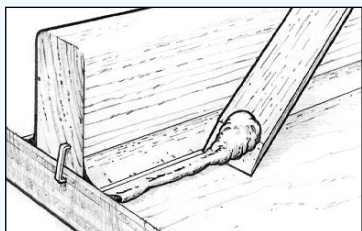

Figure 14 Clean up the excess epoxy outside the fillet margin.
3. Clean up the remaining excess material outside the margin by using a mixing stick or a putty knife (*Figure 14*). Glasscloth or tape may be applied over the fillet area before the fillet has cured (or after the fillet is cured and sanded).